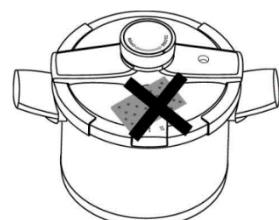

Fig.5
**13.** It is prohibited to put anything on the pressure-limiting valve (Fig. 5).